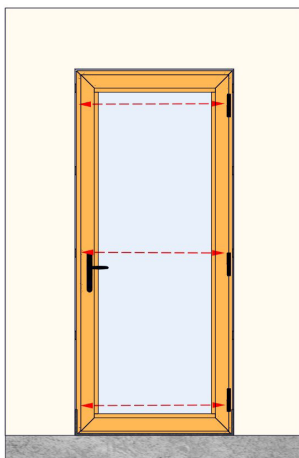

Fig. 8
1. Verify the door is square, level, and plumb. Check the spacing around the door at the top, middle, and bottom to make sure the door is not over shimmed. (Fig. 8)